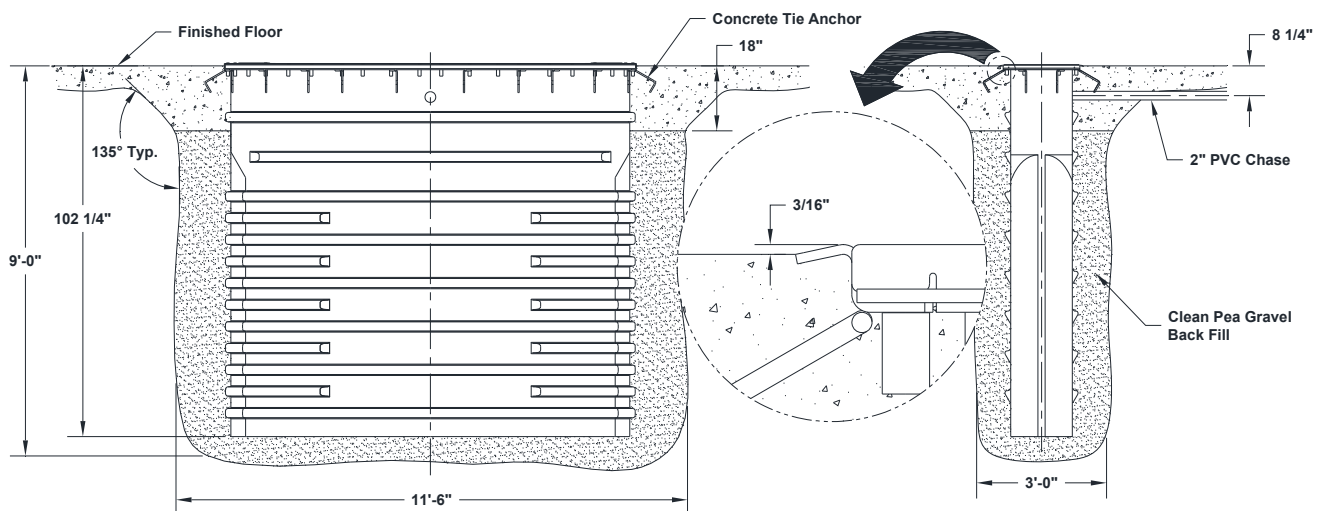

Fig. 2
New construction requires an excavation as shown in **Fig. 2**. **NOTE:** Concrete must be finished to edge of concrete tie ($3/16$ " below top of concrete ties, see **Fig. 2** below). All depths are measured from the finished floor level. Failure to comply will void the warranty. The power unit may be installed on the nearest wall or floor pedestal. The power unit should be located out of the working area around the lift and vehicle, but close enough to allow good visibility while operating the lift. Hydraulic and air lines from the lift should be recessed under the slab in a 2" sch. 40 PVC chase. CLI will supply the proper coupling to join the PVC chase to the lift.
- Pour concrete floor taking care not to run concrete in or on top of the lift / containment assembly. **NOTE:** Concrete must be finished to edge of concrete tie (3/16" below top of concrete ties, see **Fig. 2**). The floor should slope away from the lift for drainage. The floor slope should not exceed 1/16" per foot. 3500 psi concrete, steel reinforced per local commercial practice is required. The new concrete must be mechanically joined to the existing floor (minimum #6 rebar no larger than 24" O.C.).